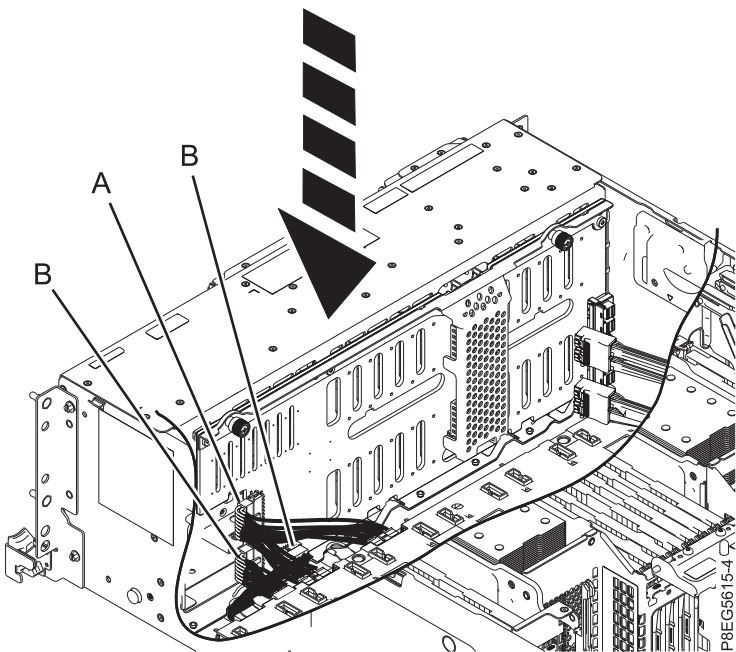

Figure 18. Reconnecting the power, signal, and control panel cables to the disk drive backplane
5. Reconnect the signal and control panel cables (**B**), and the power Y cable (**A**), to the disk drive backplane as shown in Figure 18.